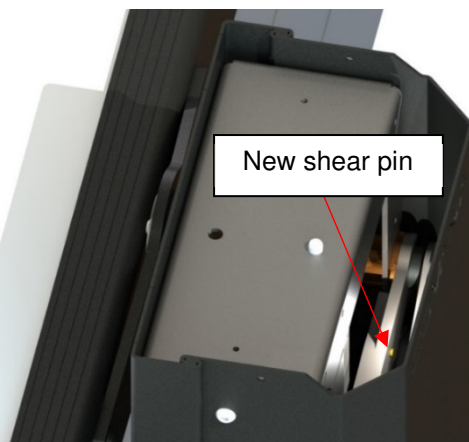

Figure 32
- 6) Using long needle-nose pliers, insert the new shear pin in the tilting mechanism's shear pin holes. (Figure 32)